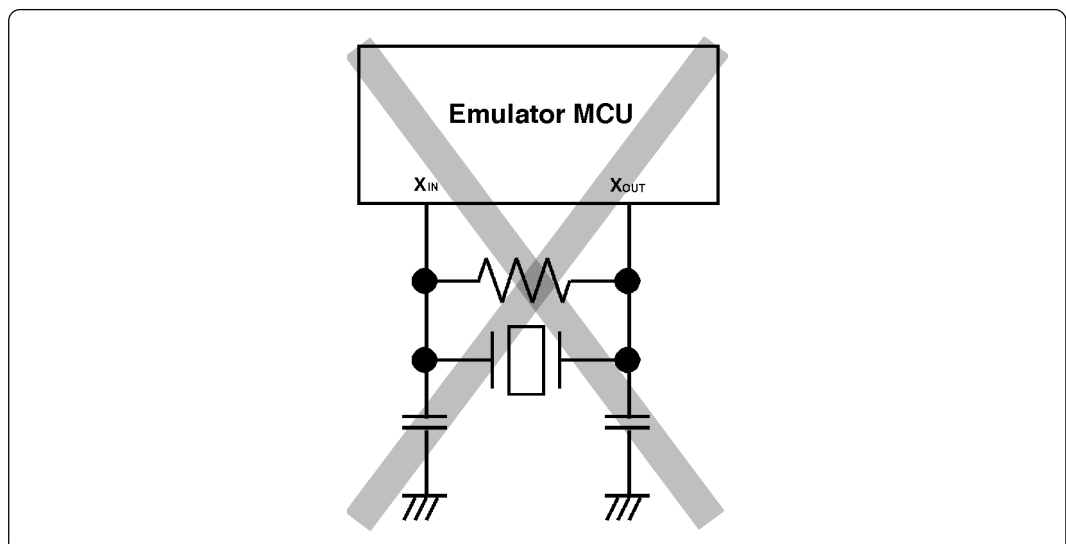

Figure 3.11 Circuit in which oscillation does not occur (same for XCIN-XCOUT)
- Make note that in the oscillator circuit shown in Figure 3.11 where a resonator is connected between pins XIN and XOUT, oscillation does not occur because a flexible cable, buffer IC and other devices are used between the evaluation MCU and the target system.
- Make note that in the oscillator circuit shown in Figure 3.11 where a resonator is connected between pins XCIN and XCOUT, oscillation does not occur because a flexible cable, buffer IC and other devices are used between the evaluation MCU and the target system.